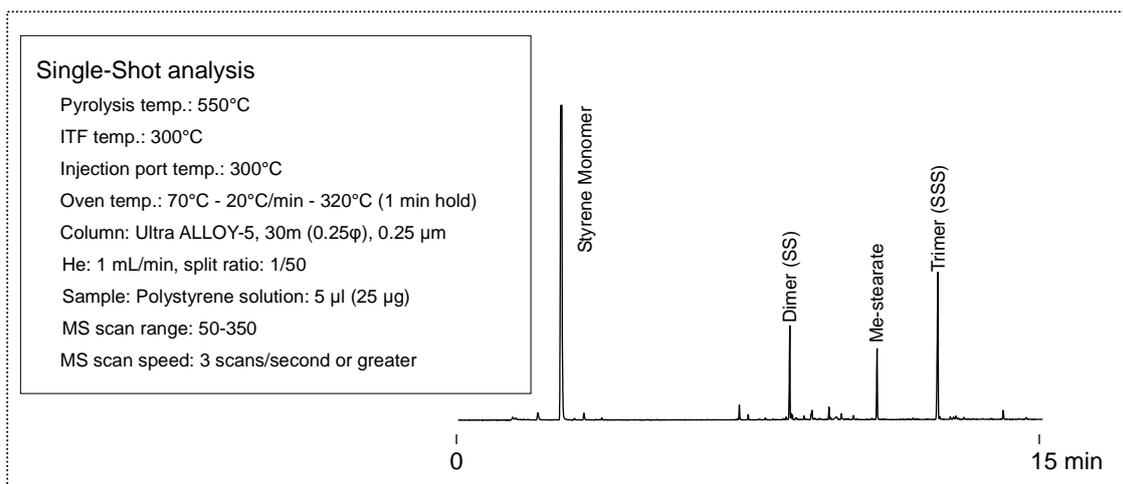

Fig. 5.3 Pyrogram of polystyrene obtained by Single-Shot analysis
STEP2 Set the pyrolysis and GC conditions (see Fig. 5.3)
- (1) Set the interface temperature (ITF TEMP) to “Auto” mode.
- (2) Set the pyrolysis temperature in “Single-Shot Analysis” screen.
The pyrogram in Fig. 5.3 has peaks for the polystyrene pyrolyzates: monomer, dimer, trimer, and methyl stearate (Fig. 5.3).